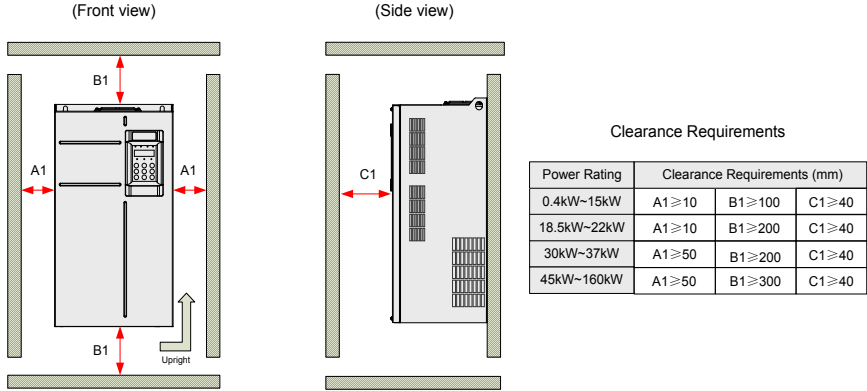

Figure 3-2 Mounting clearance of a single drive (MD290T0.4G/0.7PB to MD290T160G/200P)
- ◆ Refer to Figure 3-2 for mounting clearance requirements. Ensure there is sufficient space allowed for efficient heat dissipation of the drive and the other devices in the cabinet.